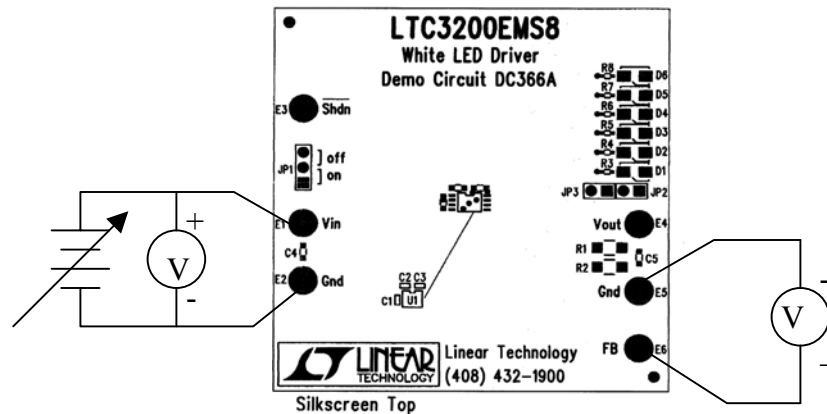

Figure 1 DC366A Test and Measurement Setup
DC366A is set up to easily evaluate the LTC3200 low noise charge pump. Refer to Figure 1 for equipment setup and follow the procedure outlined below.
- Before turning on the power supply connect a 3.3V, 500mA bench supply to the VIN and GND (E1 and E2) terminals as shown in Figure 1.